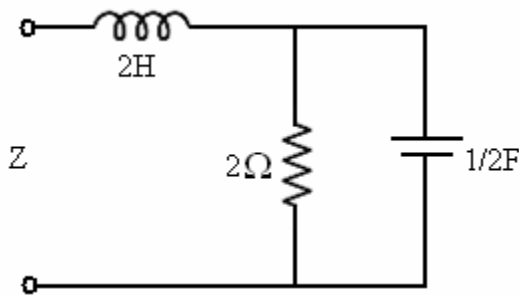

Figure. 2
- b) Transform the below circuit (Figure. 2) in to 'S' domain and determine the Laplace transform impedance. [7+8]